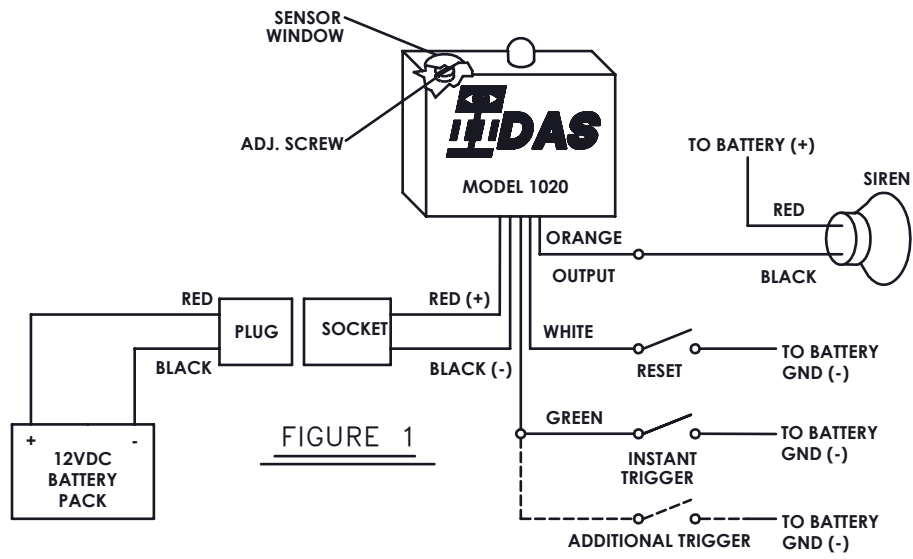
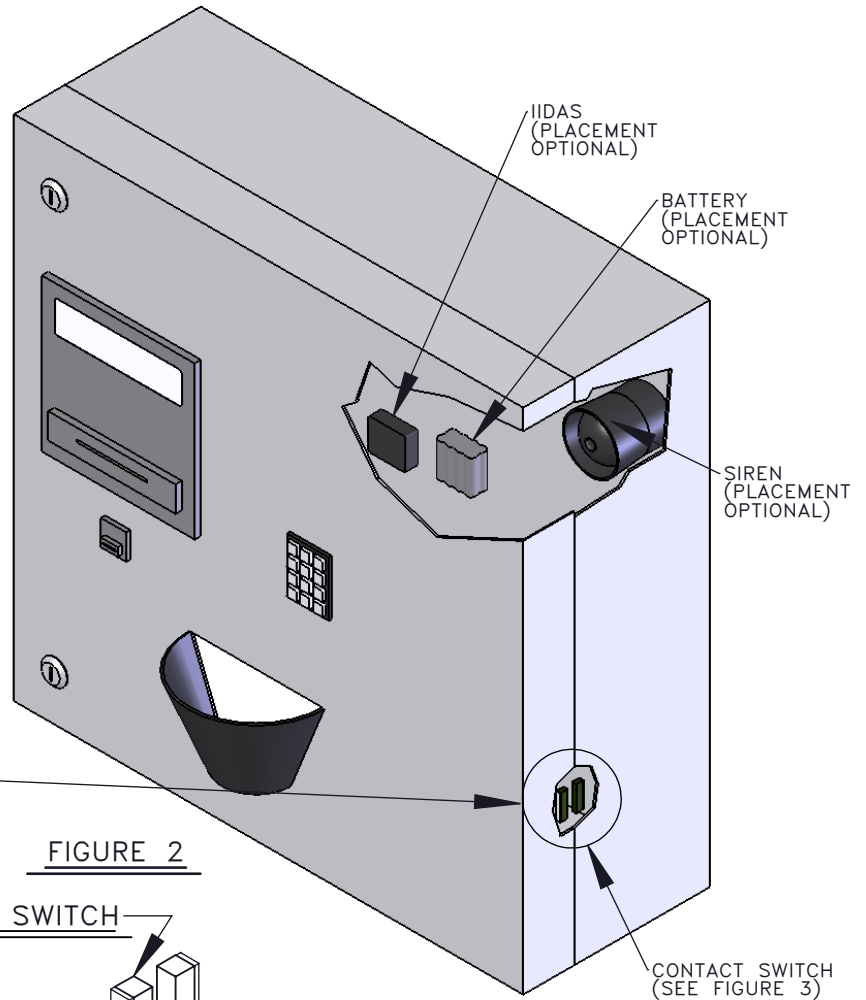

FIGURE 1
FIGURE 2
The *IIDAS*® impact/abuse sensor is designed to detect severe impact, unwarranted abuse, or abrupt rocking. After installation, if it is necessary to adjust the impact sensitivity, remove the sensor window (see Fig. 1) from the *IIDAS*® **Controller**, and with a small flat-head screwdriver simply turn the screw, in one-half turn steps, clockwise to increase the impact sensitivity and counter-clockwise to decrease the impact sensitivity. Whenever the impact/abuse sensor is triggered *IIDAS*® will instantly alarm for approximately 30 seconds and then reset automatically. The alarm output may be shortened or lengthened at BRW's factory. Whenever *IIDAS*® is triggered again, during an alarm cycle, it will restart its 30 second alarm output. Whenever *IIDAS*® is triggered by a door being illicitly opened it will instantly alarm for approximately 30 seconds and then reset automatically.
***IIDAS*® CONTROLLER:** Remove the two-sided tape backing from the *IIDAS*® **Controller** and attach it to a clean surface on the inside the changer machine, near the area likely to be attacked, with the *IIDAS*® LED facing upwards (see Fig. 2). For best performance, where the service door is accessible, attach near the lock assembly.
SIREN: Remove the two-sided tape backing from the siren and attach to a clean surface on the inside of the changer machine (see Fig. 2). Use the siren's mounting bracket if possible.
RESET SWITCH (System 108DA): The magnetic contact assembly is used to disarm *IIDAS*® when the service door is opened. Remove the two-sided tape backing and locate a space on the inside of the changer machine's door and attach the switch portion; then attach the magnet portion inside the changer machine, on the door's frame, parallel to the switch. The maximum gap between the switch and the magnet should be no more than ½ inch. Use the spacer or the plastic "L" bracket if necessary. Check installation with a meter to insure proper alignment (Door Open = closed, Door Closed = open). (See Fig. 2).
WHITE WIRE (Reset): For *System 108DA*, attach the white wire on the *IIDAS*® **Controller** to either one of the wires on the switch portion of the magnetic contact assembly. Attach the other wire of the switch portion to the black wire (-) on the battery (see Fig. 2 & 3). For *System 103KA*, attach the white wire on the *IIDAS*® **Controller** to the white wire on the key lock, then attach the black wire on the key lock to the black wire (-) on the battery (see Fig. 1 & 4).
ORANGE WIRE (Alarm Output): Attach the orange wire of the *IIDAS*® **Controller** to the black wire on the siren. Then attach the red wire on the siren to the red wire on the battery (see Fig. 1).